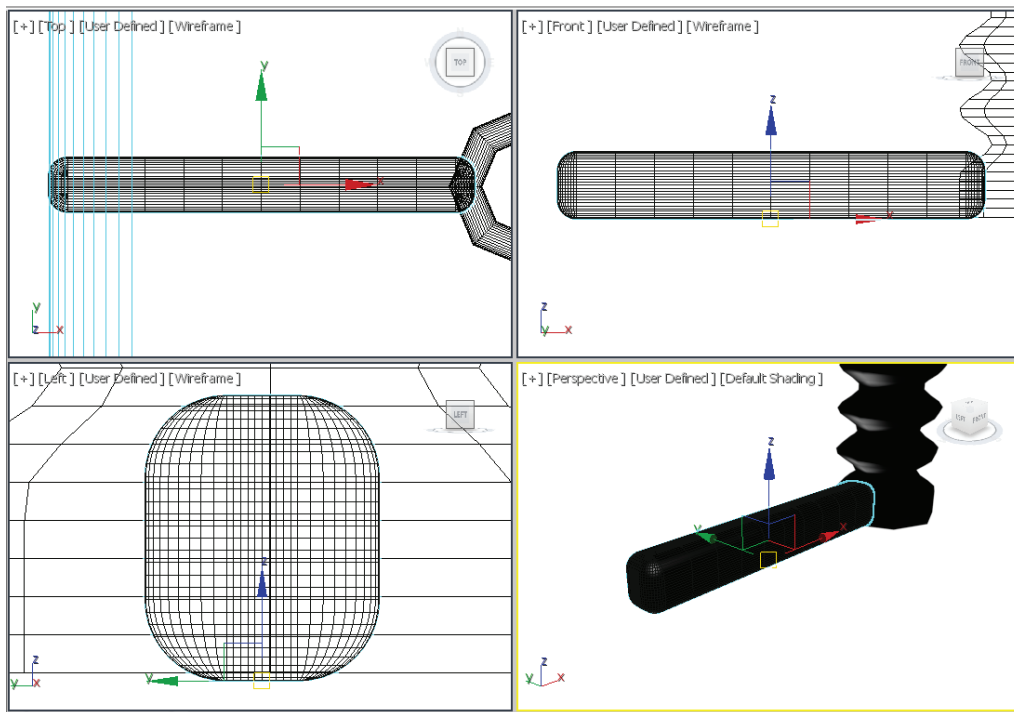

Figure 3-41 The leg01 geometry after invoking the **Zoom Extends All Selected** tool
7. Make sure that *leg01* is selected, and then choose the **Zoom Extents All Selected** tool; *leg01* is zoomed in all viewports, as shown in Figure 3-41.